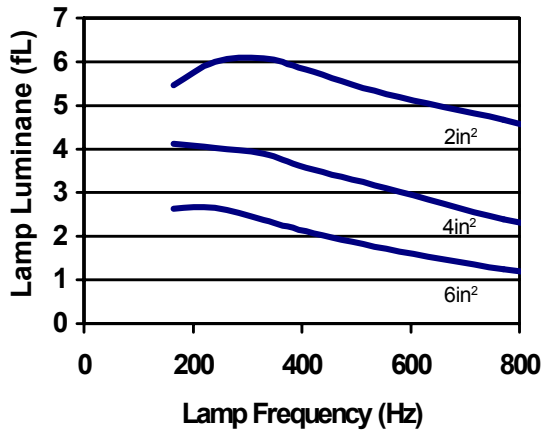

Figure 3: Typical Lamp Luminance vs Lamp Frequency
The effect of lamp frequency on the lamp luminance for a constant $V+$ and single value of inductor (L) is demonstrated in Figure 3. The output luminance of various sizes of Durel 3 Blue-green EL lamps was measured at $V+ = 3.0V$ using a Sumida CLS62152 (1.5mH) inductor. It is important to test different values of CLF to find the lamp frequency that will yield the maximum lamp brightness for your application.